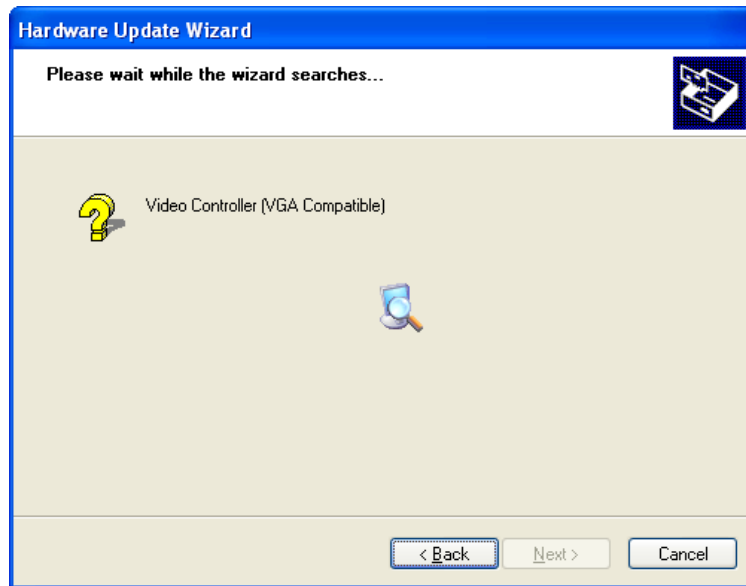

Figure 7-13: Hardware Update Wizard Search Window
Step 18: The following window (Figure 7-13) appears as the OS searches for the driver.